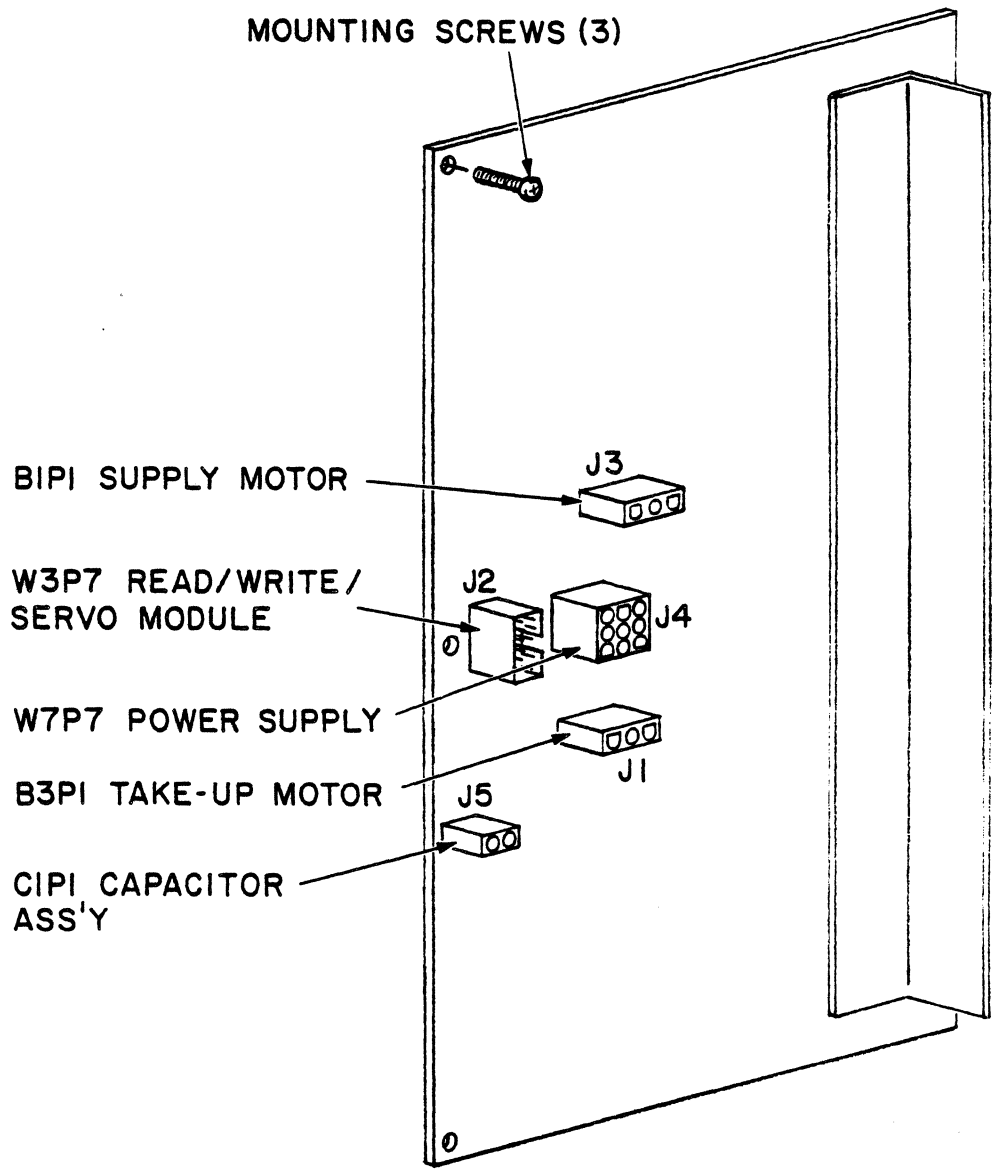

Figure 6-38. Power Driver Connectors
1. Detach the following connectors from power driver PWA (see figure 6-38):